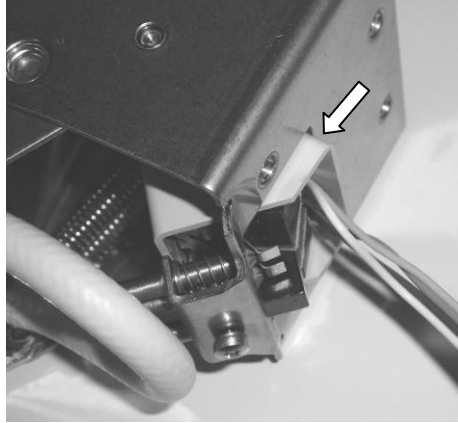

Figure 15 – Shunt Switch Cover Protrusion
- 4.18 Slide the shunt switch cover over the switch assembly and out the back of the shunt box structure as shown in Figure 15.